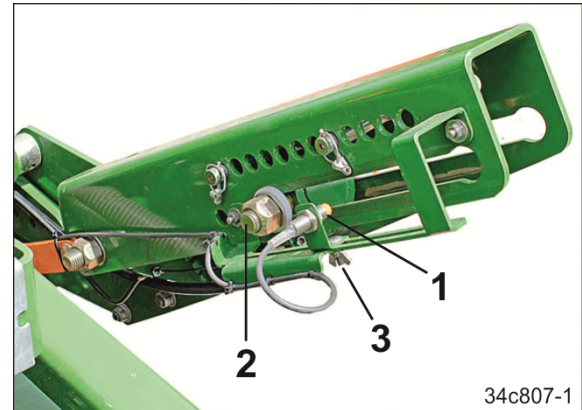

Fig. 117
4. Set the adjustable sensor (Fig. 117/1) flush with the bolt (Fig. 117/2) of the extended piston rod.
5. Tighten the thumb nut (Fig. 117/3).